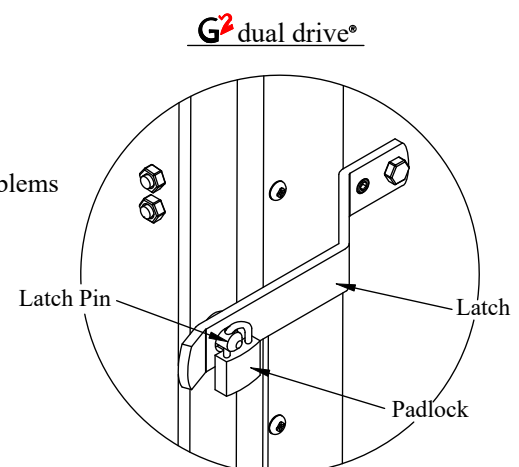

Figure 21: Padlock location.
9. **Lock** the padlock through the hole in the latch pin (Figure 21).